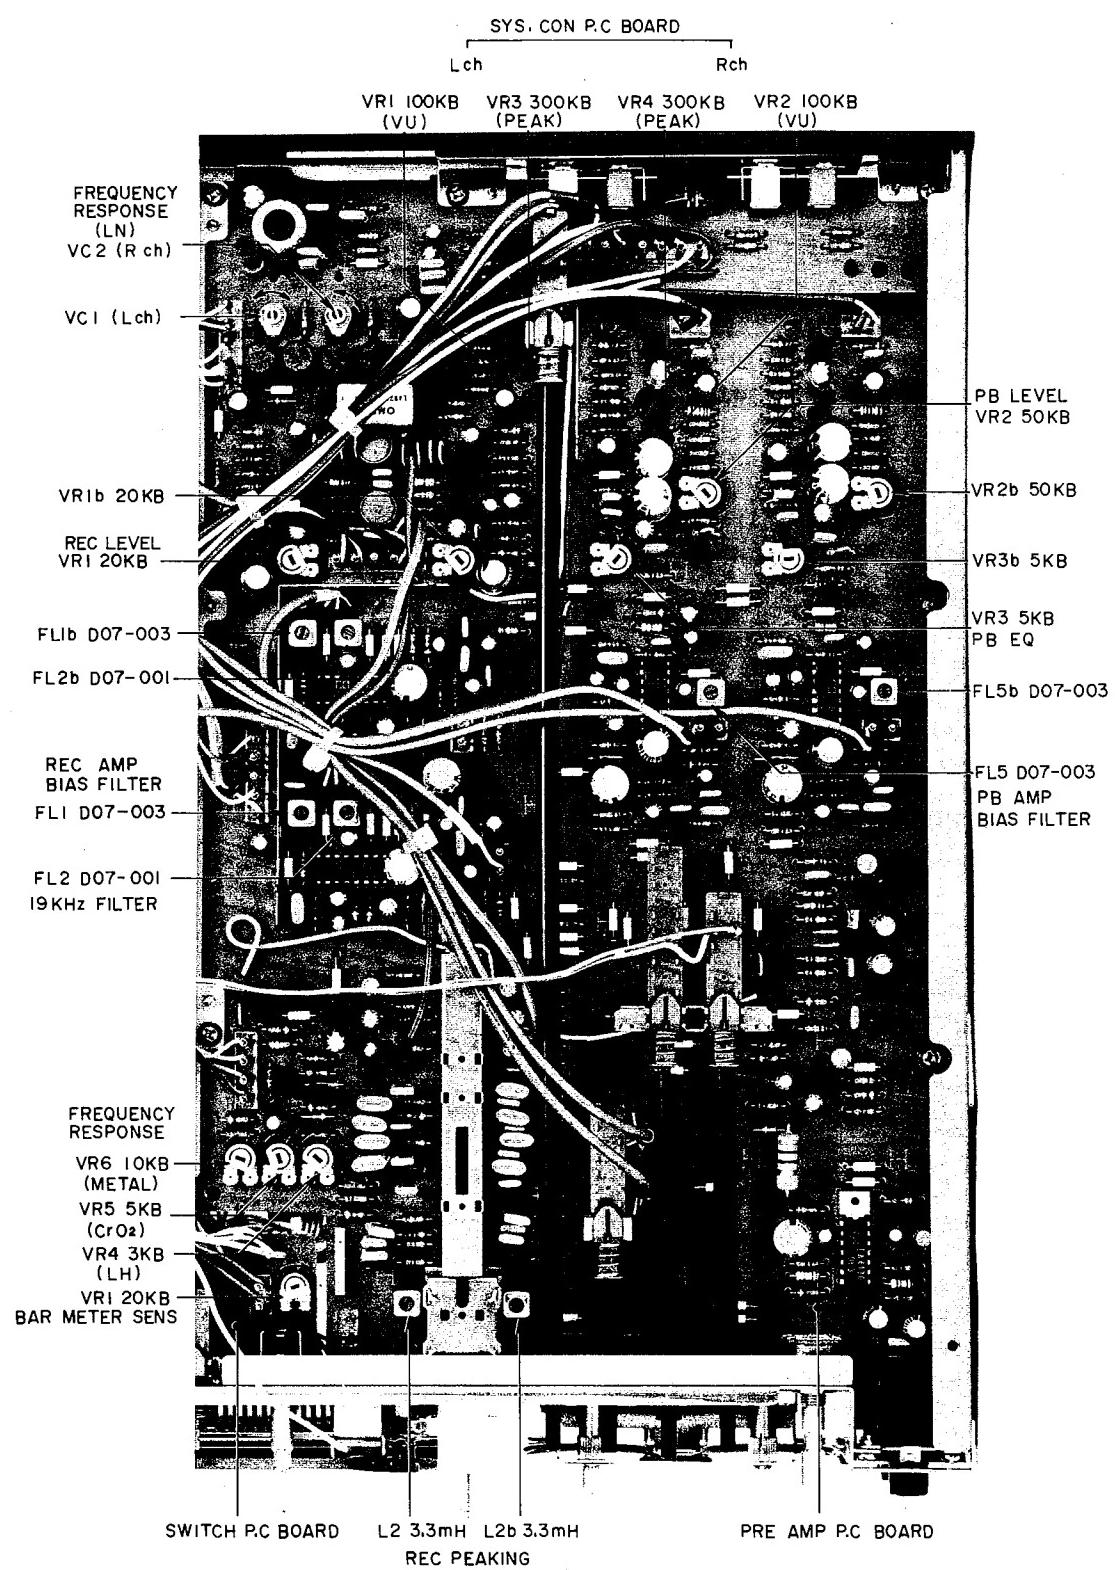

Fig. 24 Amplifier Adjustment Point
#### **1. AMPLIFIER ADJUSTMENT (Refer to Figs. 24, 25, 26)**
**2. BAR METER ADJUSTMENT (Refer to Figs. 24, 27, 28)**